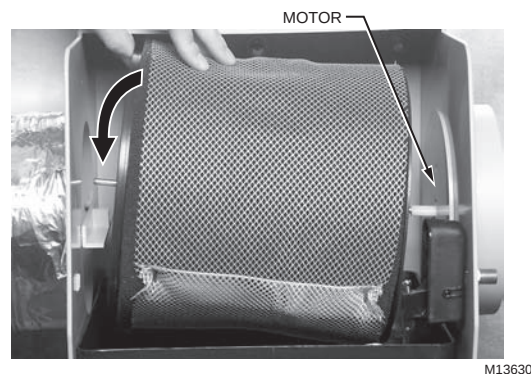

Fig. 29. Installing Humidifier Drum.
- 10.** Install Humidifier Drum by inserting motor coupling end first, then snapping it into the bearing. See Fig. 29.